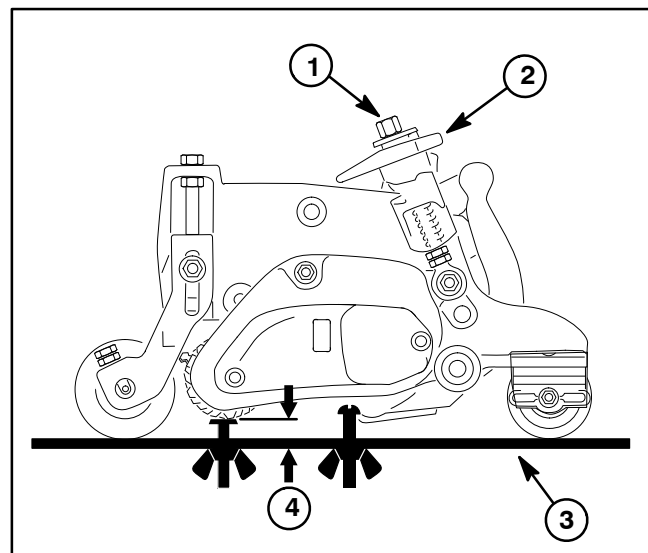

Figure 5
4. Place the groomer reel in the grooming (lowered) position by rotating the quick-up levers toward the front of the cutting unit (Fig. 5).
5. Measure the distance from the lowest tip of the groomer blade to the working surface. Turn groomer height adjuster to raise or lower the groomer blade tip to the desired height (Fig. 5).